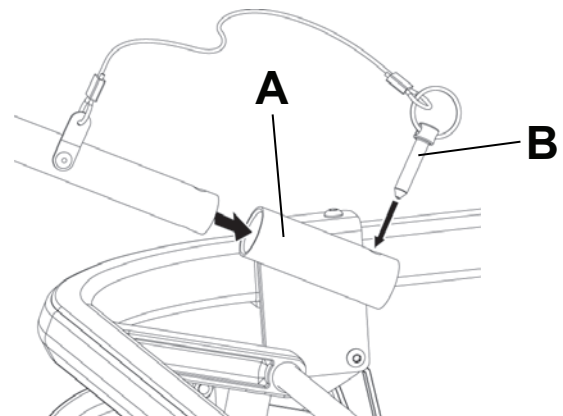

Figure 17 – Attaching the push/pull handles option
1. Insert the push/pull handles into the sockets (A) at the head end and foot end of the cot (Figure 17).
2. Insert the pins (B) into the holes to secure the handle to the cot (Figure 17).